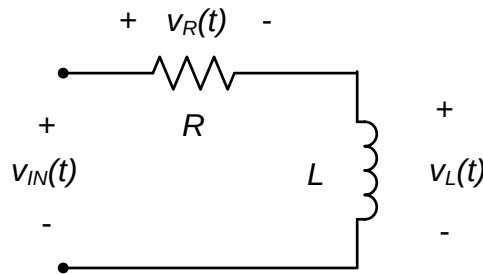

Figure 1. RL circuit.
This lab assignment concerns the circuit shown in Fig. 1. We will measure the response of both the voltages  $v_R(t)$  and  $v_L(t)$  to the input voltage  $v_{IN}(t)$  and plot the frequency response – both magnitude and phase – of both voltages. Obviously, since we are interested in the frequency response of the circuit, the input voltage will consist of sinusoids.
Determine the frequency responses of both  $v_L(t)$  and  $v_R(t)$  in the circuit shown in Fig. 1, as a function of  $R$  and  $C$ . Use the voltage  $v_{IN}(t)$  as the input in both cases7. Calculate the cutoff frequency of the circuit (both outputs share the same cutoff frequency). Also calculate the DC gain and high frequency gain of both outputs.
Sketch the magnitude and phase responses of both outputs in the circuit of Fig. 1. Label your sketches with the DC gain, high frequency gain, and cutoff frequency.
- a. Construct the circuit of Fig. 1, using  $R = 100\Omega$  and  $L = 1\text{mH}$ .